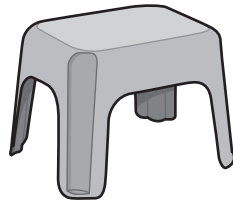

Fig. 16
- (g) Fig. 16 shows a stool made from plastic that has the same purpose as the stool made from wood.